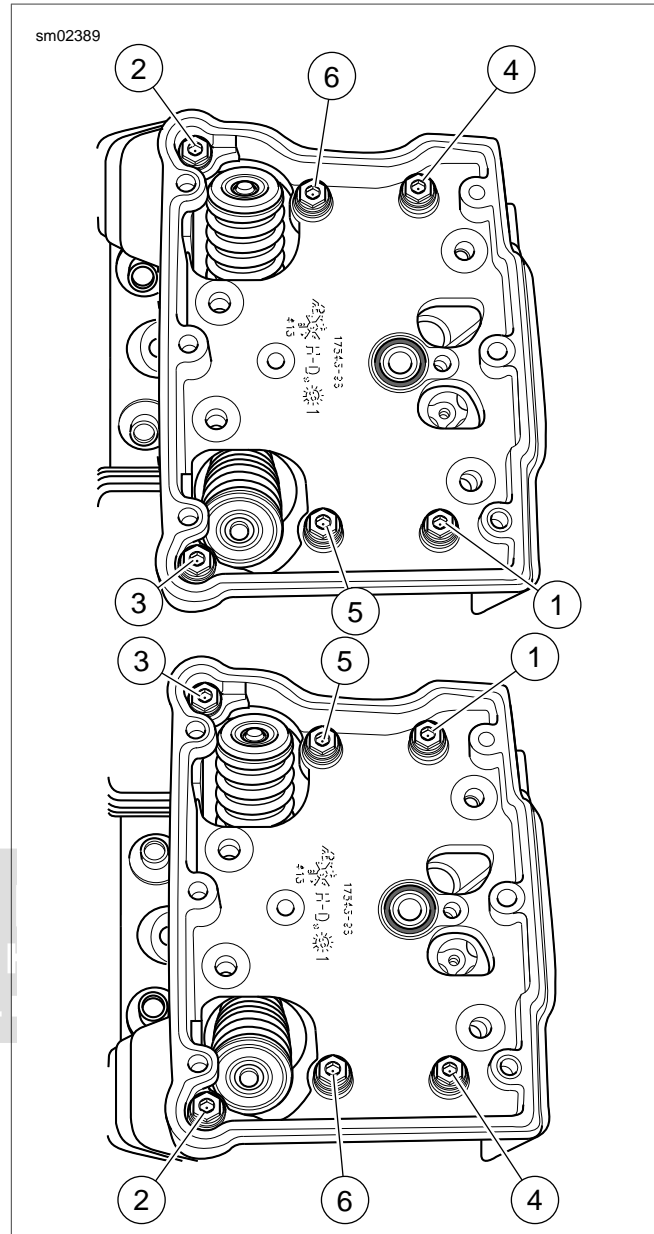

Figure 3-20. Rocker Housing Bolts Removal Sequence
1. See Figure 3-20. Following the sequence shown, alternately loosen the six rocker housing bolts. Remove rocker housing bolts and their captive washers.